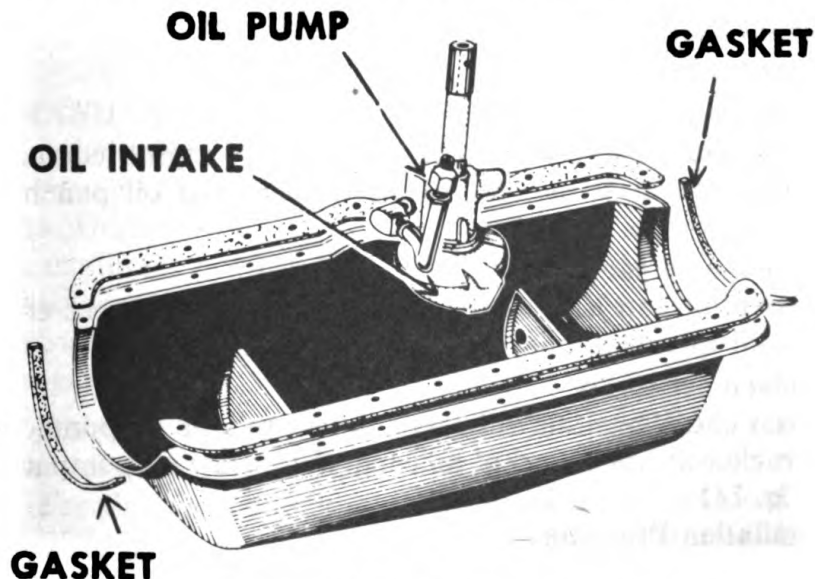

Figure 140—Oil Pan and Components
b. Removal Procedure (Fig. 140)
(1) Remove engine assembly
Use a small amount of shellac to hold gaskets securely on under side of block. Do not place gasket directly on oil pan. Install side gaskets first, then install end pieces of cork in groove of bearing caps (Fig. 140).